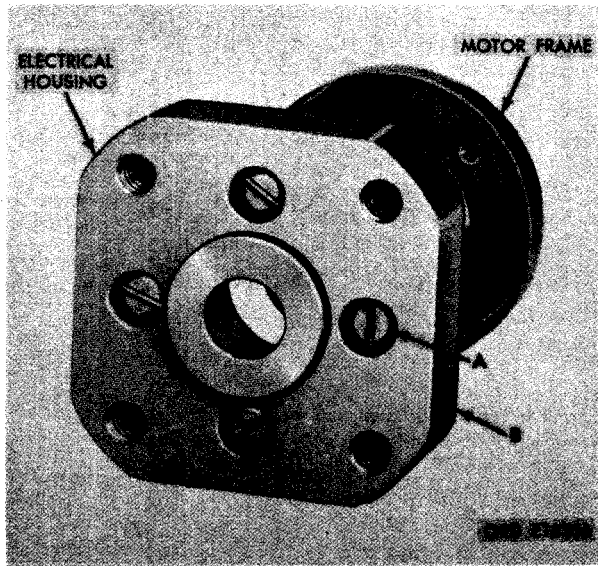

FIGURE 429. REMOVING ELECTRICAL HOUSING.
- (5) Figure 429. (A) Remove four No. 4 x 3/4 pan head machine screws and seals securing the electrical housing to the motor frame. (B) Remove the electrical housing.